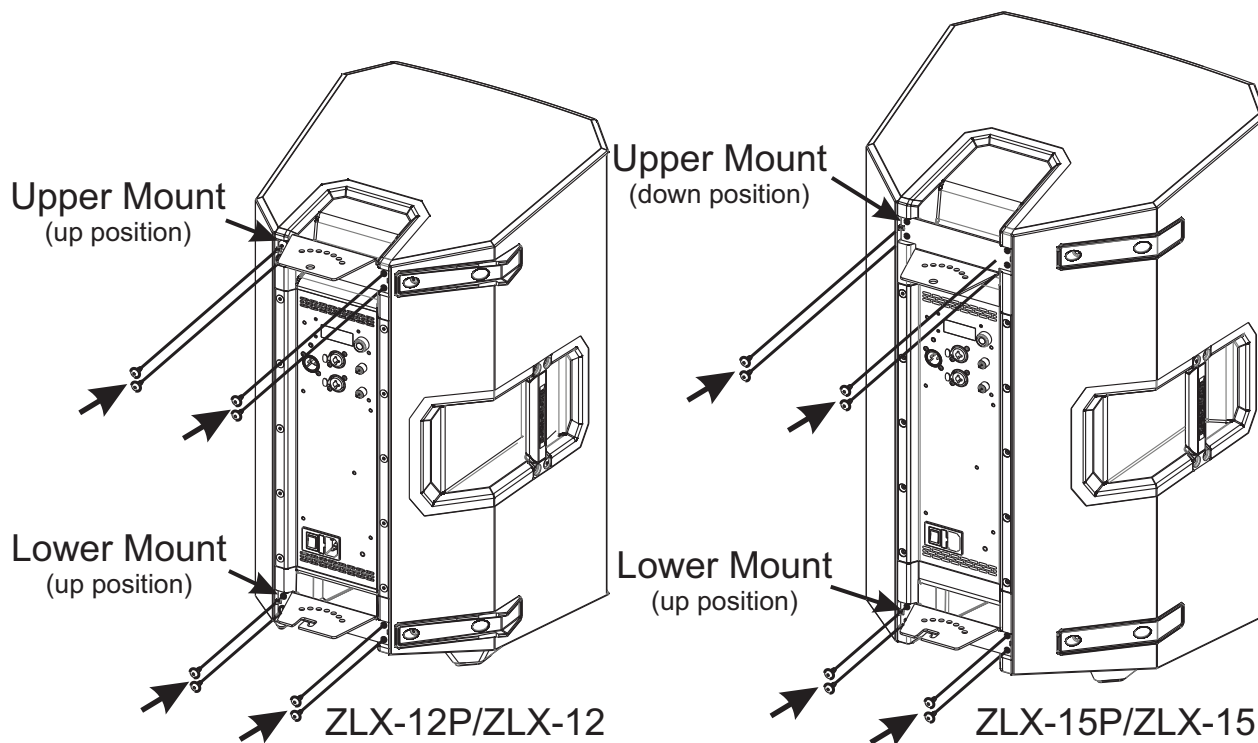

Figure 2.2: ZLX Attach Mounts
4. Attach the **lower mount** with four (4) of the screws from step 2, where the bottom handle was located in the up position. (See Figure 2.2.)